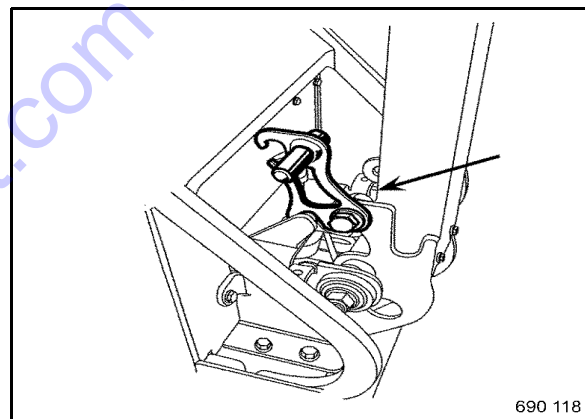

Fig. 31
- Adjust the steering rod (Fig. 31) in upright position and lock it in the last locking position.